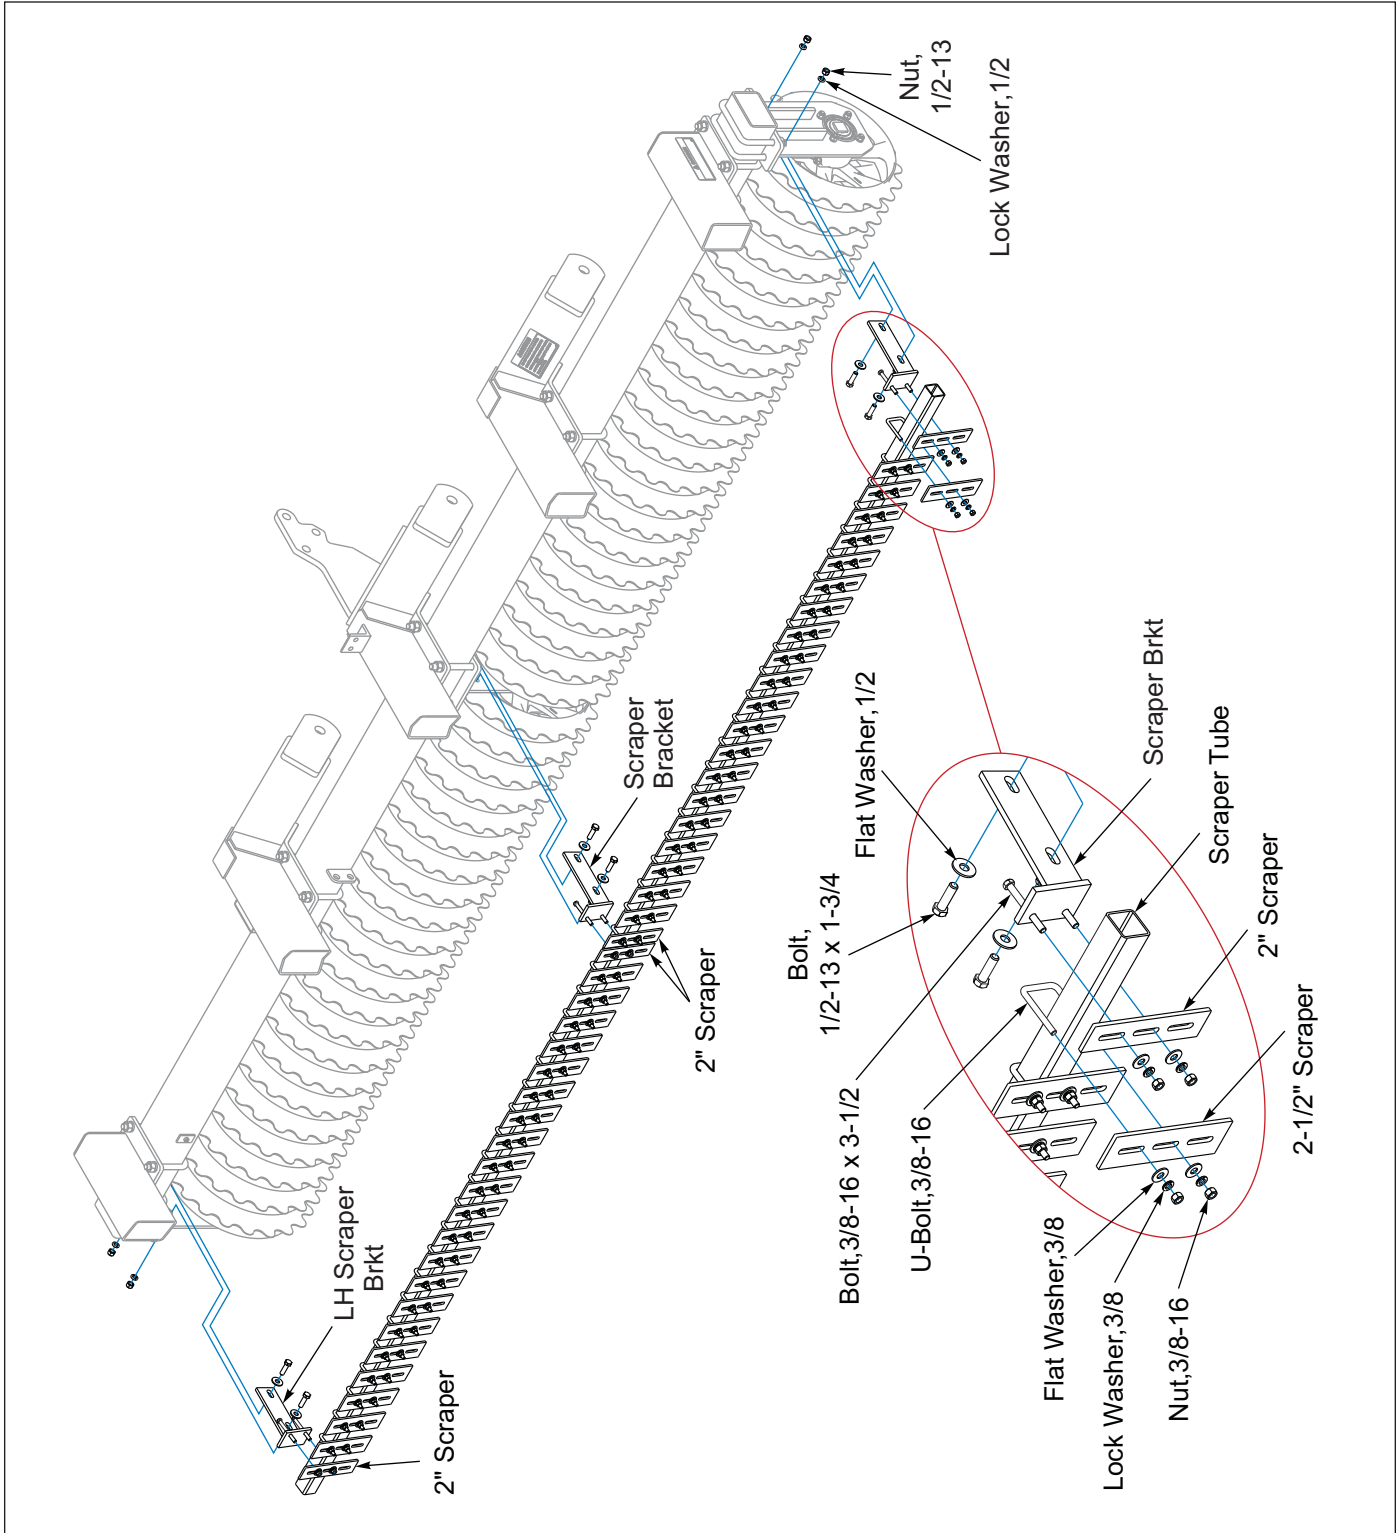

Figure 2-41: Center Front Scraper - Optional
2. With the Red LED Lamp facing rearward, attach the Lamp to the outside and the Decal Bracket to the inside of the Lamp Bracket using 1/4-20 x 1-1/2 Screws and Locknuts. **See Figure 2-41.**
4. Place the Amber LED inside the Light Shield. Attach Lamp and Shield to the outside and the Decal Bracket to the inside of the Lamp Bracket with 1/4-20 x 1-3/4 Screws and Locknuts. **See Figure 2-41.**
10. Apply the reflector decals to Decal Plate Mounts. The amber reflector decals should be front facing on the outer Decal Plate Mounts. The red reflector decals and orange decals should be rear facing on both the inner and outer decal plate mounts. **See Figure 2-41.**